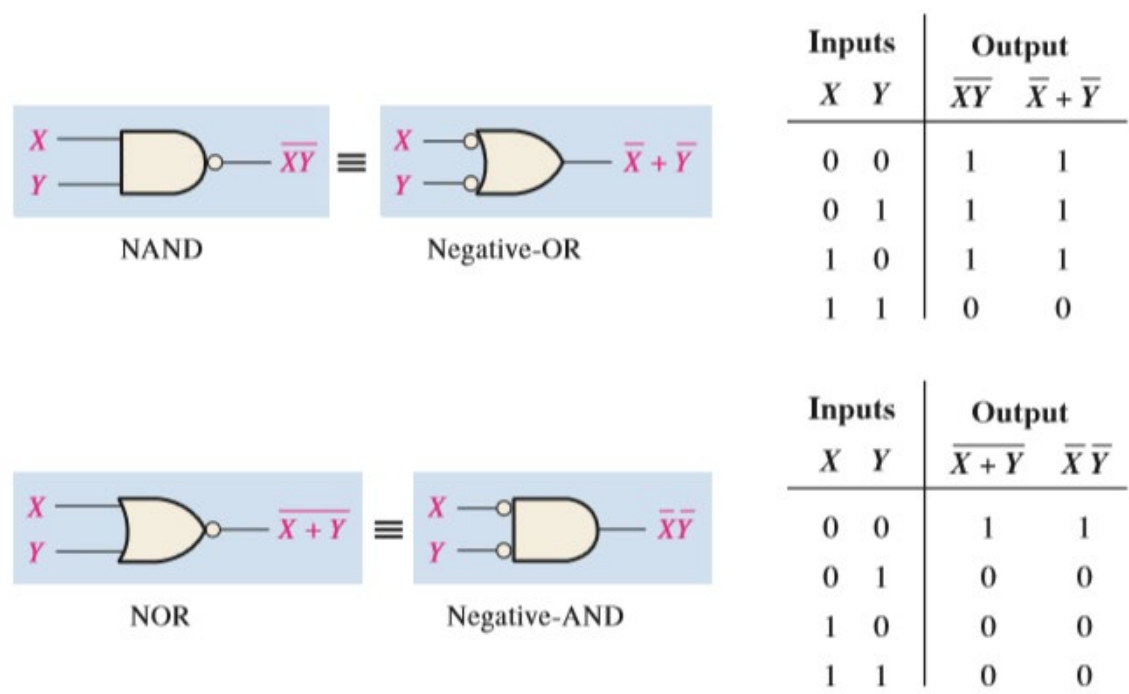

Figure 4.7: Gate equivalencies and the corresponding truth tables of DeMorgan
**Figure 4.7** shows the gate equivalencies and truth tables for the two DeMorgan’s Theorems stated above.